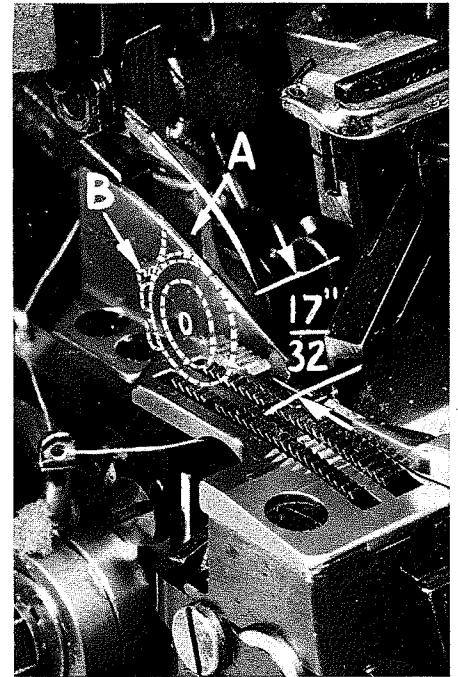

Fig. 3
With throat plate in position, needle should center in the front end of needle slot. When needle is at high position, needle point should be set  $\frac{17}{32}$  inch above throat plate (Fig. 3). Move needle driving arm (A, Fig. 3) by loosening clamp screw (B). Remove throat plate.